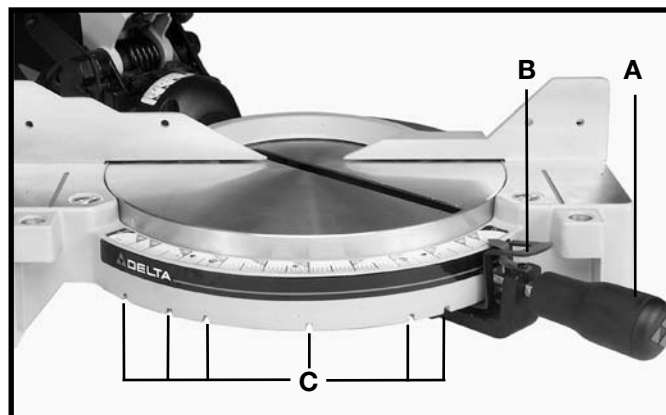

Fig. 18
The miter saw will cut any angle from a straight 0 degree cut to 47 degrees right and left. Loosen the lock handle (A) Fig. 18 one or two turns. Depress the index lever (B), and move the control arm. Tighten the lock handle at the desired angle.
This tool is equipped with positive stops at the 0, 22.5, 31.62, and 45 degree right and left positions. Simply loosen lock handle (A) Fig. 18, and move the control arm until the bottom of the index lever (B) engages into one of the positive stops (C). **Tighten the lock handle (A).** To disengage the positive stop, depress index lever (B) and move the handle.
**IMPORTANT: ALWAYS TIGHTEN LOCK HANDLE (A) FIG. 18 BEFORE CUTTING.**